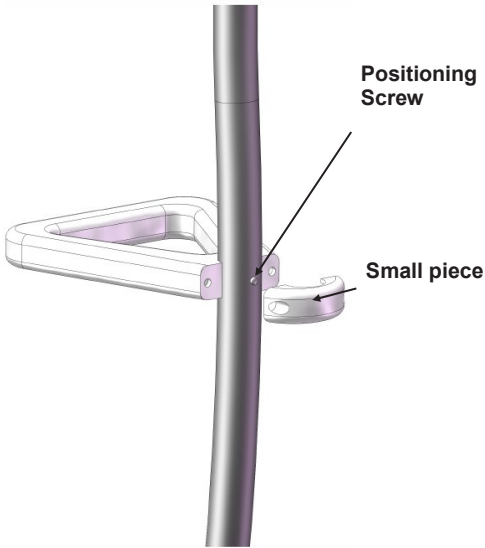

Figure 15: Handle installation.
3. While positioning small piece onto the post, attach large part of the handle using the two Phillips screws. Refer to Figure 15.